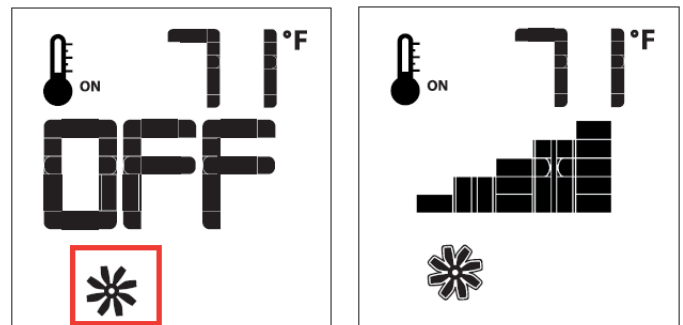

Figure 45. Fan Speed Control
The fireplace is equipped with optional hot air circulating fans. The speed of the fans can be controlled by the Proflame system. The fan speed can be adjusted through six (6) speeds. To activate this function use the Mode Key, see Figure 35, to index to the fan control icon, see Figure 45. Use the Up/Down Arrow Keys to turn on, off, or adjust the fan speed. A single "beep" will confirm reception of the command.